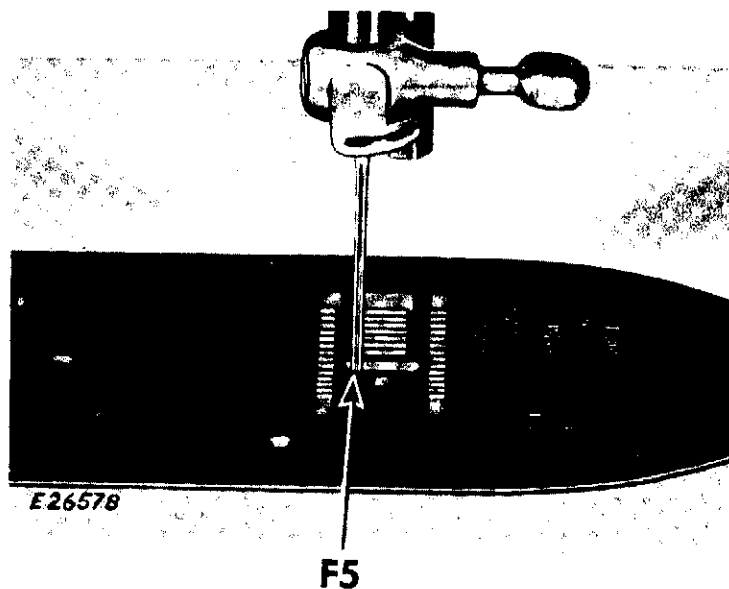

Fig. 254
14. Check clearance of needle in relation to throat plate **F5**. Needle should clear left side of needle slot as illustrated in **Fig. 254**.